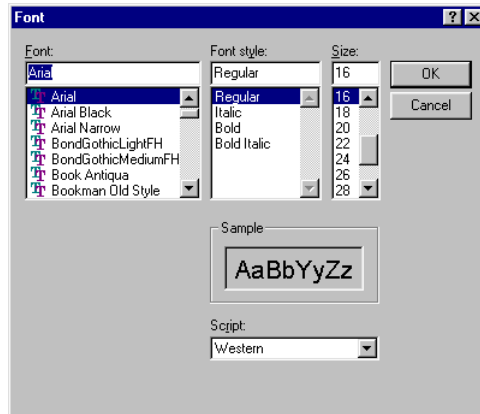

Figure 5-34 Font Dialog Box
1. Click **Title Font**. The Font dialog box displays, as shown in Figure 5-34:
Click Check Font to display the Font dialog box (Figure 5-34) and select the font attributes for the panel heading.